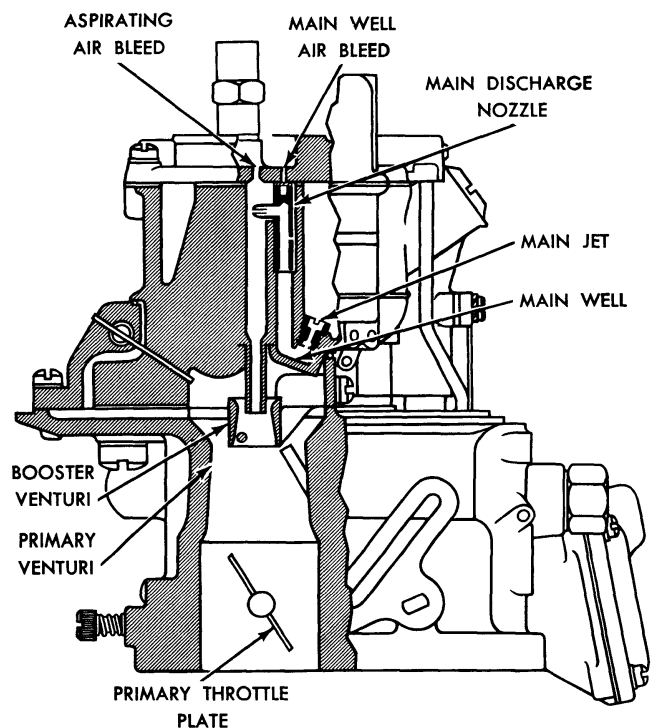

Fig. 54—Main Fuel System
(3) **MAIN FUEL SYSTEM.** As engine speed increases, the air passing through the booster venturi creates a vacuum in the venturi. The amount of venturi vacuum is determined primarily by the air flow through the venturi, which in turn is regulated by the speed of the engine. The pressure differential in the venturi and float chamber causes fuel to flow through the main metering system (fig. 54).